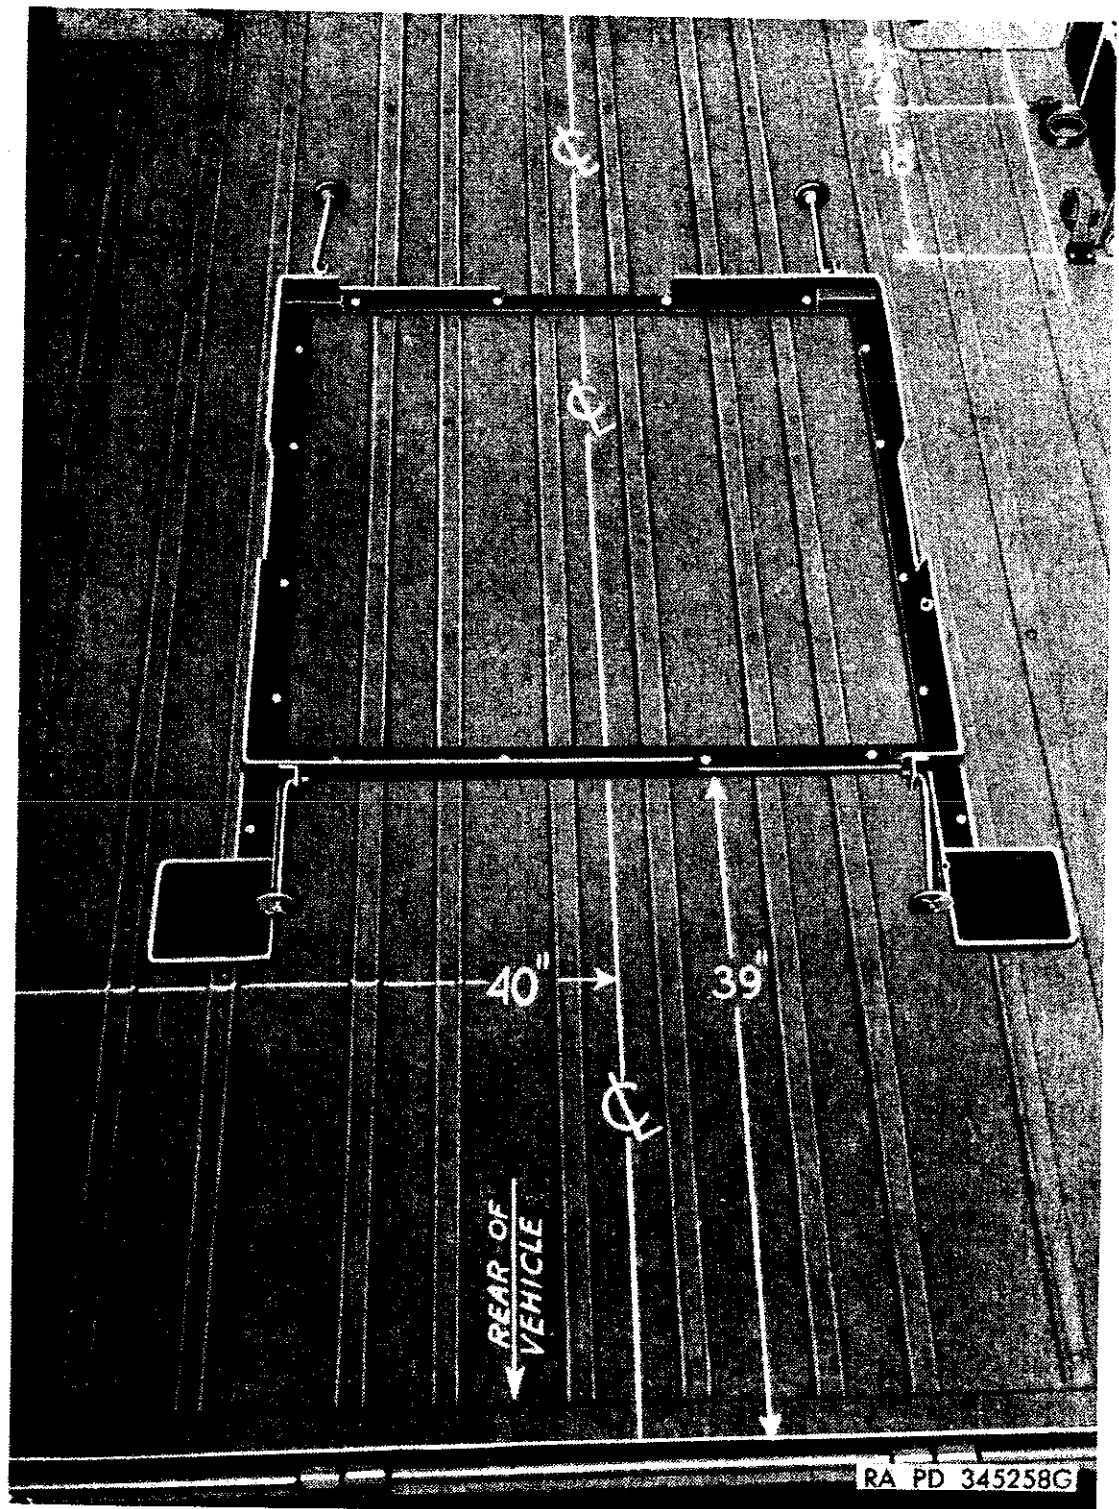

Figure 88. Superseded installation of frame assembly
*f.* Remove frame assembly from bed of truck (fig. 88).